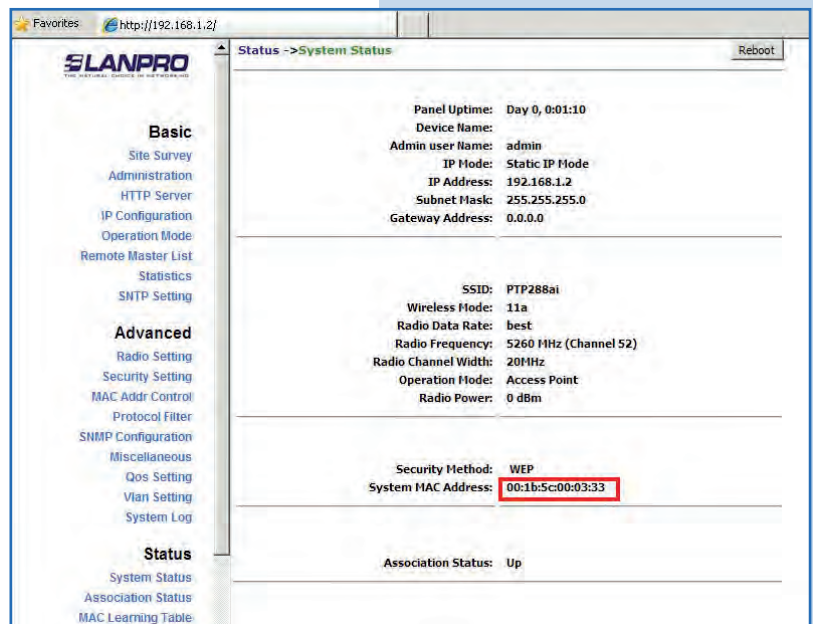

Figure 3h
- h. In the initial window (**System Status**), take note of the MAC Address of the first equipment, as shown in **Figure 3h**. Repeat this procedure with the second LP-288ai (From step **a** to **h**).